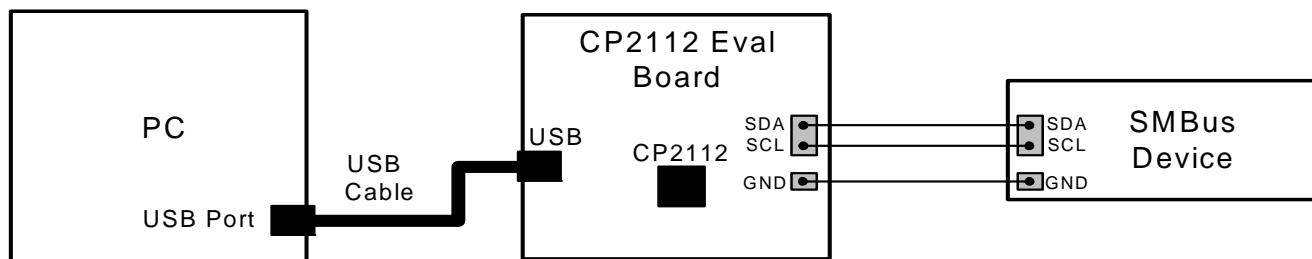

Figure 1. Hardware Setup
Connect the CP2112 evaluation board to a PC as shown in Figure 1.
1. Ensure that the hardware is connected to a Windows PC as shown in Figure 1. If the device is properly connected, the red **SUSPEND** LED on the CP2112 evaluation board will turn on.
- Updated Figure 1.